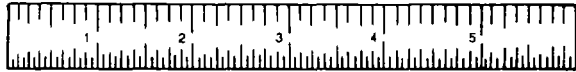

Figure 3-9. Typical Rule
b. Rules. Rules are usually made of flexible or rigid steel and are 4, 6, or 12 inches long. They are graduated in 1/8, 1/16, 1/32, and 1/64 inch divisions. When the total length of a measurement is not too great, the rule should be used. It is more accurate and easier to read than the tape. A typical rule is shown in figure 3-9.